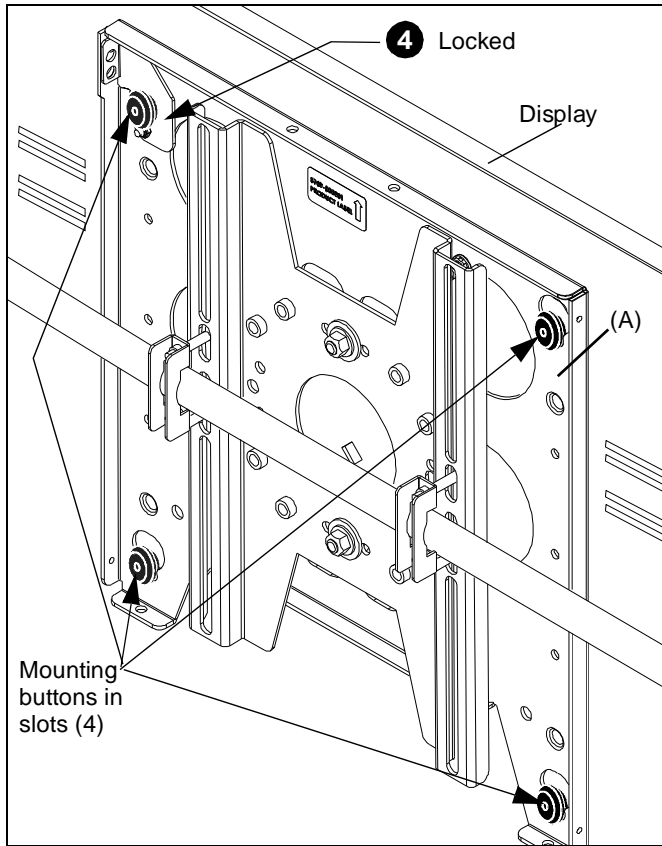

Figure 12
- With the mounting buttons of the display fully engaged in the slots of the TPS (A), secure display to the TPS by raising the Q-Latch flag all the way up to the locked position. (See Figure 12)